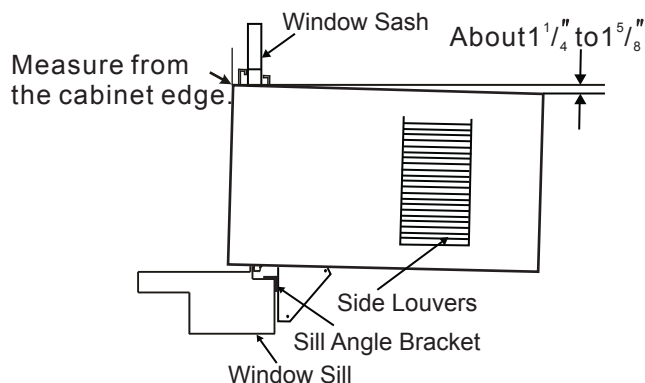

Fig.14
**NOTE:** Check that air conditioner is tilted back about  $1\frac{1}{4}$ " to  $1\frac{5}{8}$ " (tilted about  $3^\circ$  to  $4^\circ$  downward to the outside). After proper installation, condensate should not drain from the overflow drain hole during normal use, correct the slope otherwise (Fig .14).
**NOTE:** Check that air conditioner is tilted back about  $1\frac{1}{4}"$  to  $1\frac{5}{8}"$  (tilted about  $3^\circ$  to  $4^\circ$  downward to the outside). After proper installation, condensate should not drain from the overflow drain hole during normal use, correct the slope otherwise (Fig.14).